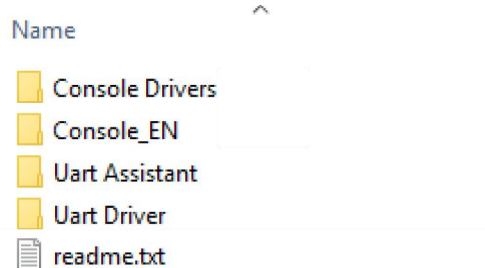
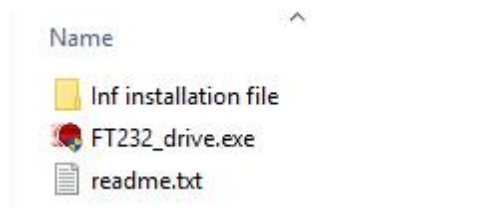
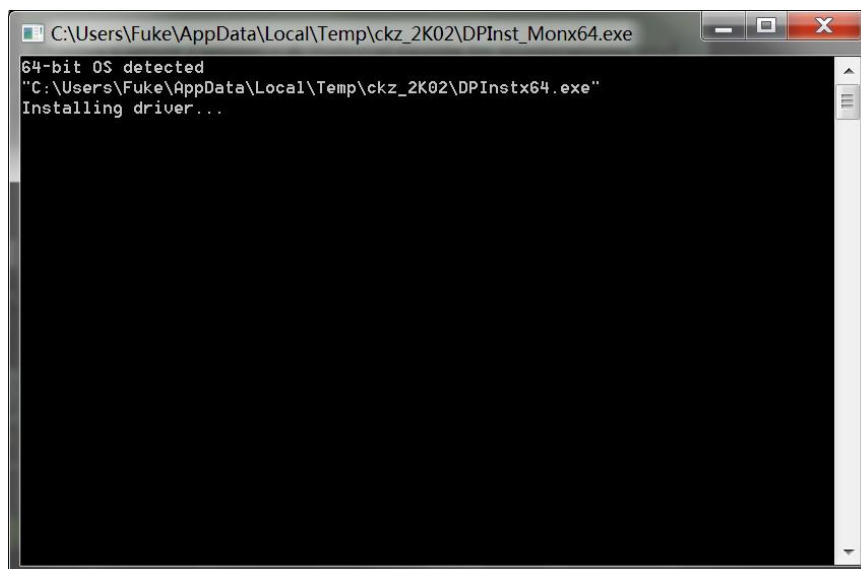
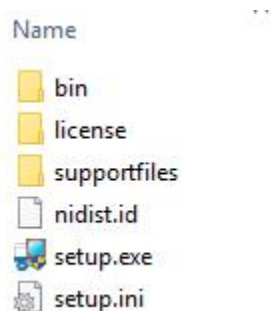

Fig.27 Software files
Fig.28 "Uart Driver" files
Fig.29 FT232 Driver Installing Interface
Fig.31 “SE1201\_Console Drivers” File
The required software is provided with the CD disk as below in Fig.27.
- (1) Double-click "FT232\_drive.exe" in Fig. 28 in the fourth file "Uart Driver" in Fig.27 and then you can see the Fig.29, which shows the installation is running.
- 1) You need to open the first file “SE1201\_Console Drivers” in Fig.27 and start to install just as shown in Fig 31.
- 1) Open the second file “SE1201\_Console\_EN” in Fig 27. This file contains Chinese and English application software and they both can operate in Windows 7/XP.